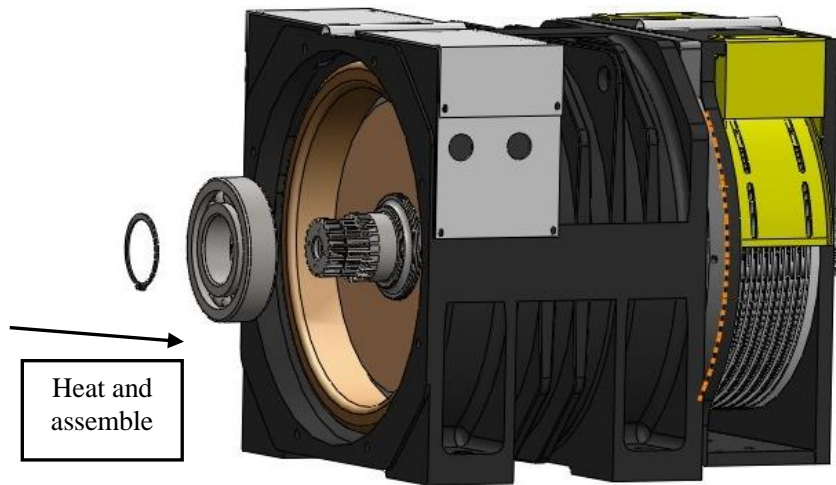

Figure 69: Rear bearing installation
- Then install the retainer ring 90 with retainer ring plier. See Figure 69.